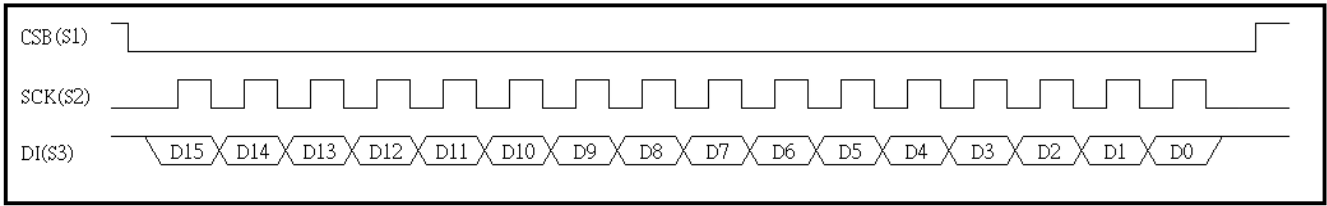
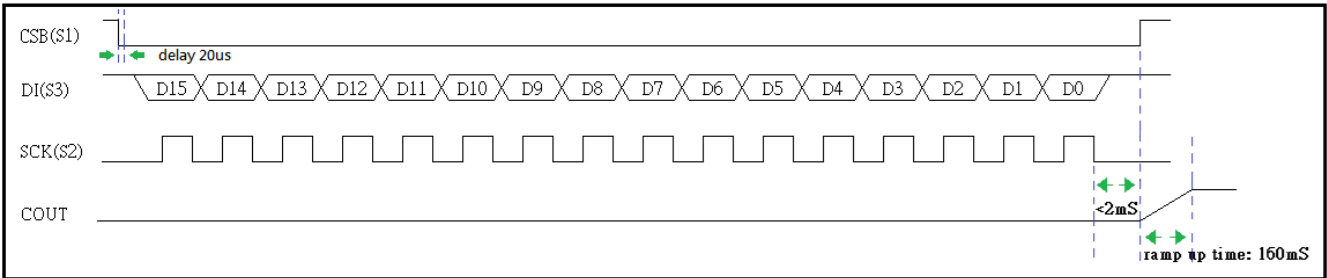
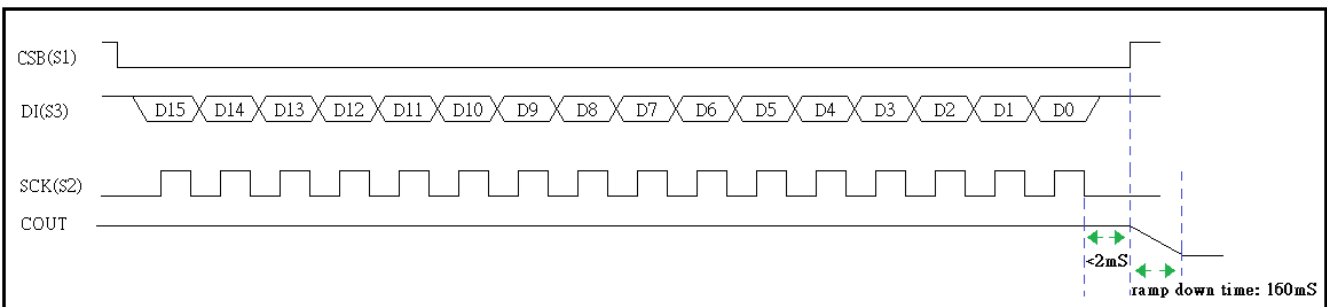

Fig.11 SPI Command timing
Fig. 12 Power-Up command timing
Fig. 13 Power-Down command timing
- (1). Load Voice Group Address :
- a. Command timing reference Fig.11 SPI Command timing.
- (2). Play Voice Group Address :
- (3). Power up with RAMP-UP(PU2) or without RAMP-UP(PU1) :
- a. Command timing reference Fig. 12 Power-Up command timing.
- (4). Power-down with RAMP-DOWN(PD2) or without RAMP-DOWN (PD1) :
- a. Command timing reference Fig. 13 Power-Down command timing.
- (5). Volume Set (VOL[3:0]) :
- (6). Volume ++ (VOL++) :
- (7). Volume -- (VOL--) :
- (8). Pause and Resume (PAUSE; RESUME) :